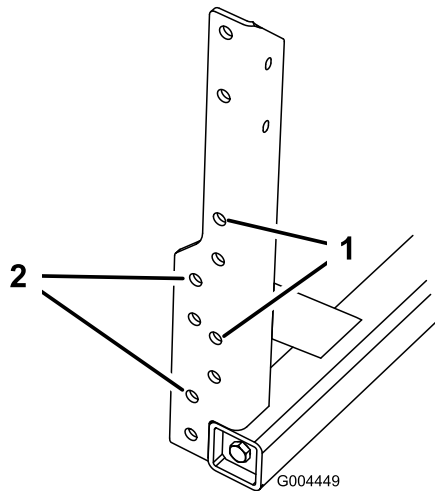

Figure 13
- Use the graphic to locate the set of mounting holes the center boom will be installed to for your machine (Figure 13).